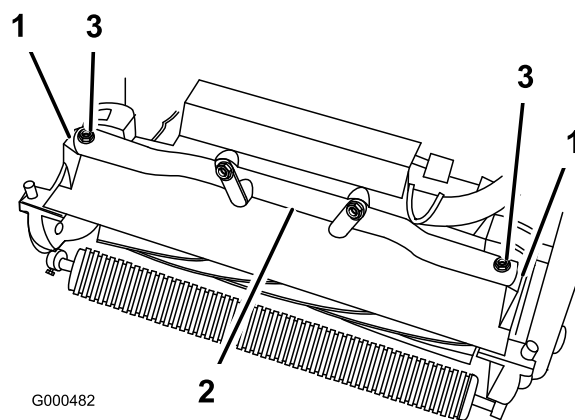

Figure 45
4. Remove (2) bolts securing cutting unit pivot arms to traction unit frame tube (Figure 45).
5. Rotate pivot arms forward (Figure 45) and rest traction unit on restrained kickstand.